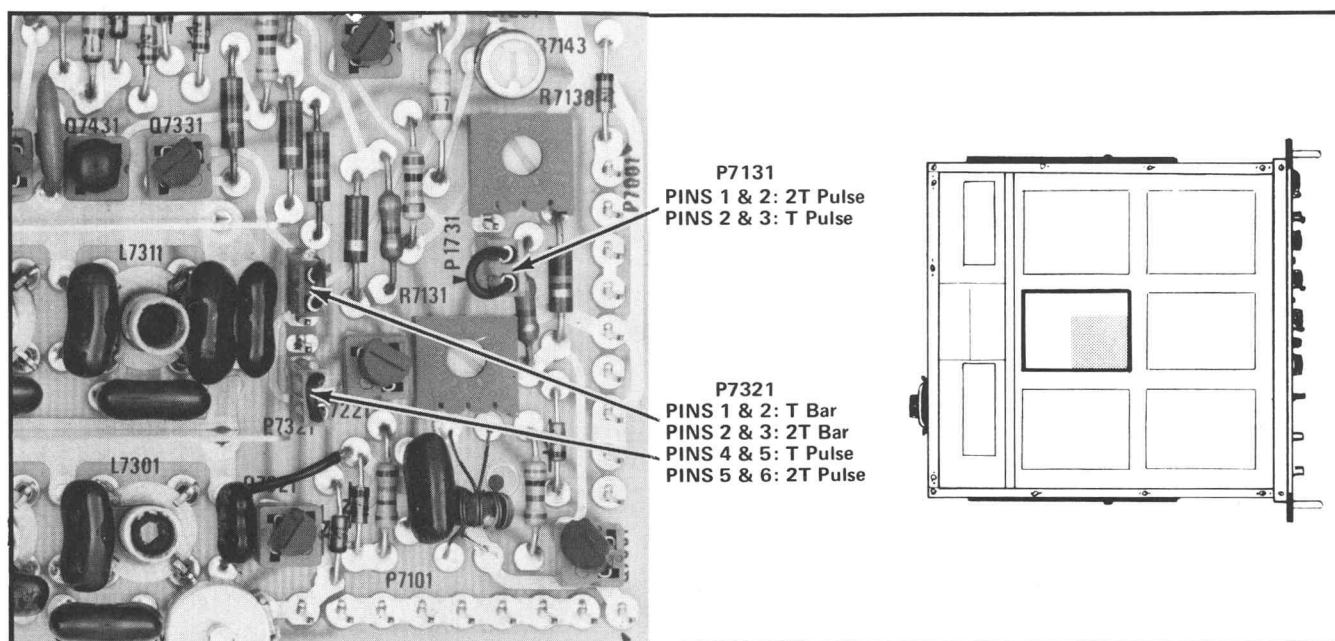

Fig. 2-8. Output circuit board showing locations of P7131 and P7321; 2T/T sine-squared Pulse and T/2T Bar (Integrated Sine-Squared Pulse).
As shipped from the factory, the 148-M generates the 2T Pulse. To display the T Pulse in place of the 2T Pulse, (1) change the connector on pins 1 and 2 of P7131 to pins 2 and 3, and (2) change the connector on pins 5 and 6 of P7321 to pins 4 and 5. (P7131 and P7321 are located on Output circuit board, see Fig. 2-8.)